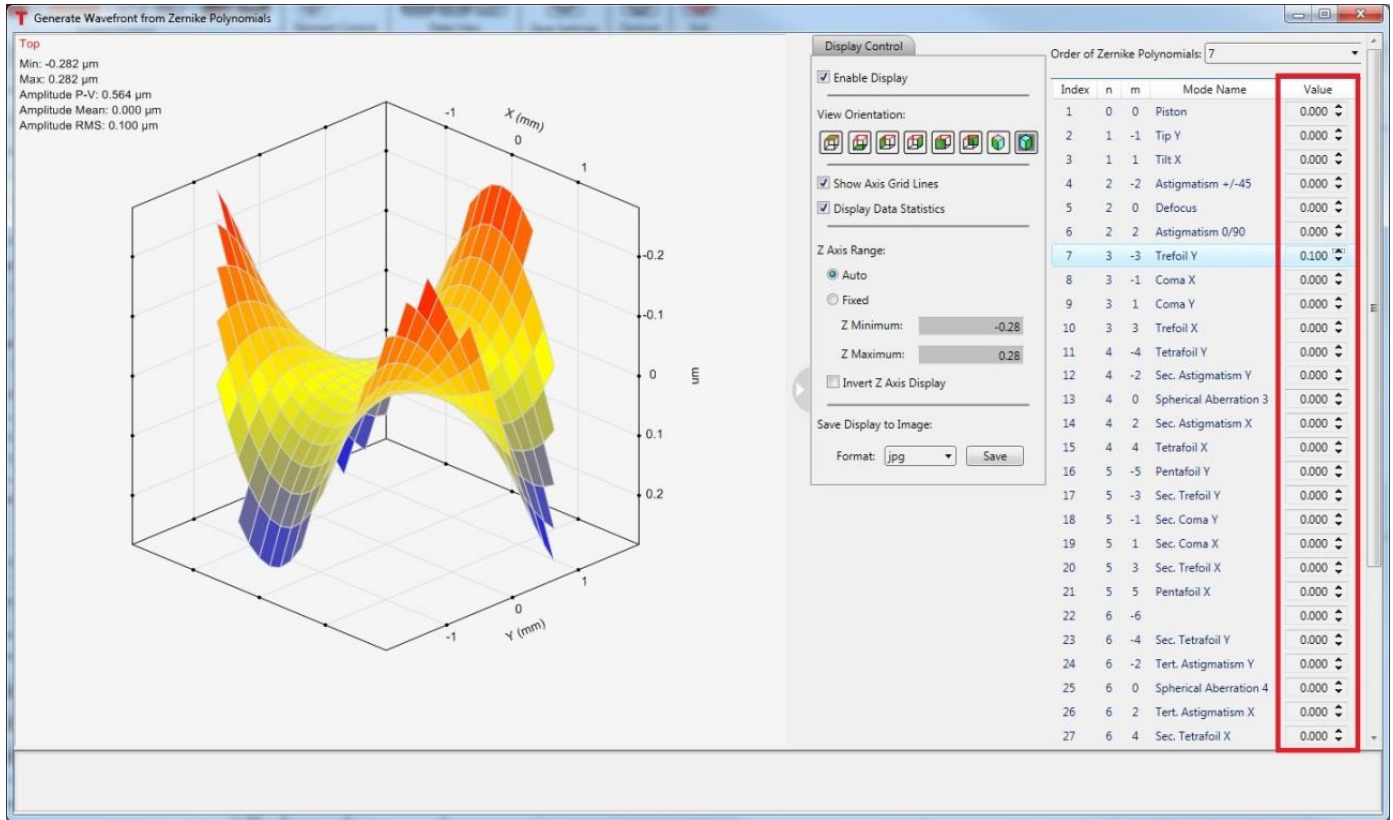

Figure 112 Wavefront Settings Window – Zernike Reference Wavefront Generator Window
- **Button (👁)** – Click this button to display the wavefront generated from one of the three means mentioned above in a separate window. See Figure 112.